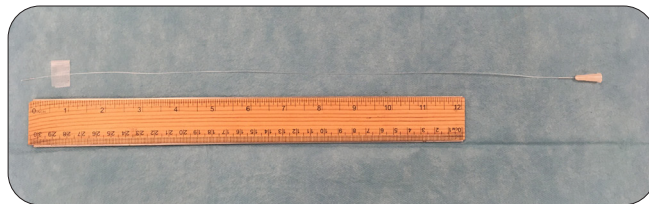

Figure 9: Tubing cut to 16 inches
2. To prepare the needle for tail injection (the left end of Fig. 9), use the needle holder to break off a 30G ½ inch needle from its hub. Hold the needle firmly close to the base of the needle hub and bend back and forth until the needle breaks off the base (for a ½ inch needle [12.5 mm], 1-2 mm left on the needle hub is okay as it will give you a ~10 mm needle.).